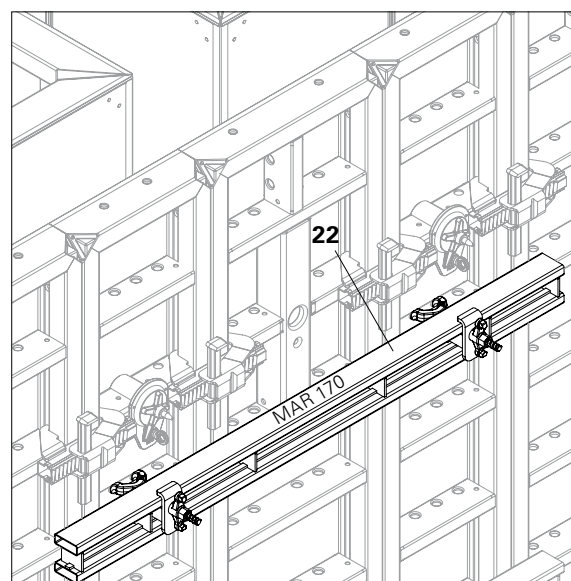

Fig. A4.07
With T-junctions on straight walls, install Compensation Waler MAR 170 (22) centrally to the outgoing wall. Attach the double hook of the Compensation Waler to the middle holes. (Fig. A4.07)